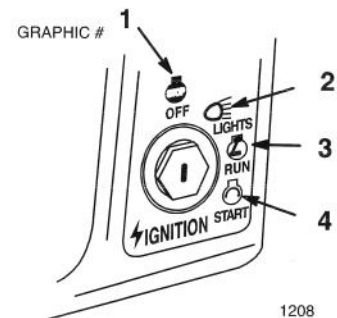

Figure 6
7. Turn the ignition key clockwise and hold it in the "START" position (Fig. 6). When the engine starts, release the key.
2. Turn the ignition key to "OFF" (Fig. 6).